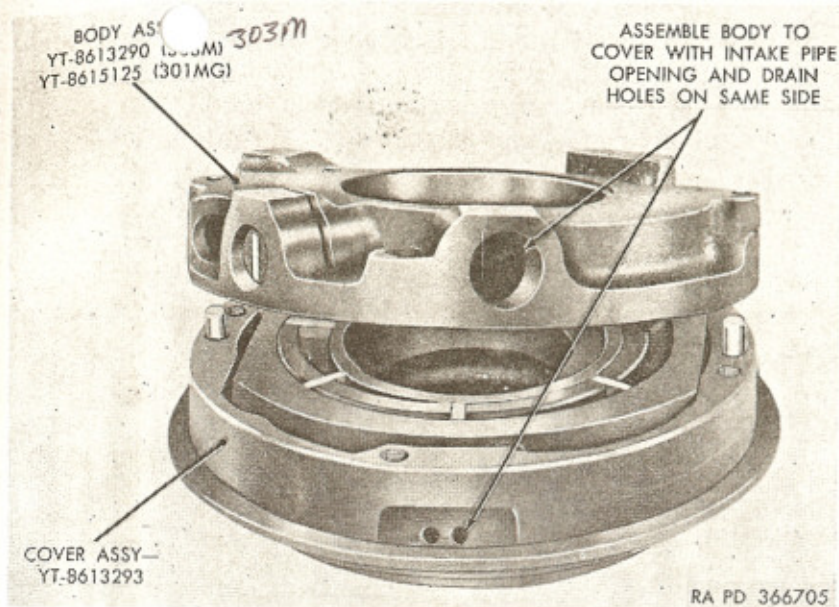

Figure 93. Positioning oil pump body and cover.
h. Position pump body assembly (H) on pump cover assembly with two drain holes in cover opposite the intake pipe hole in body (fig. 93). Body should fit freely on dowel pins.